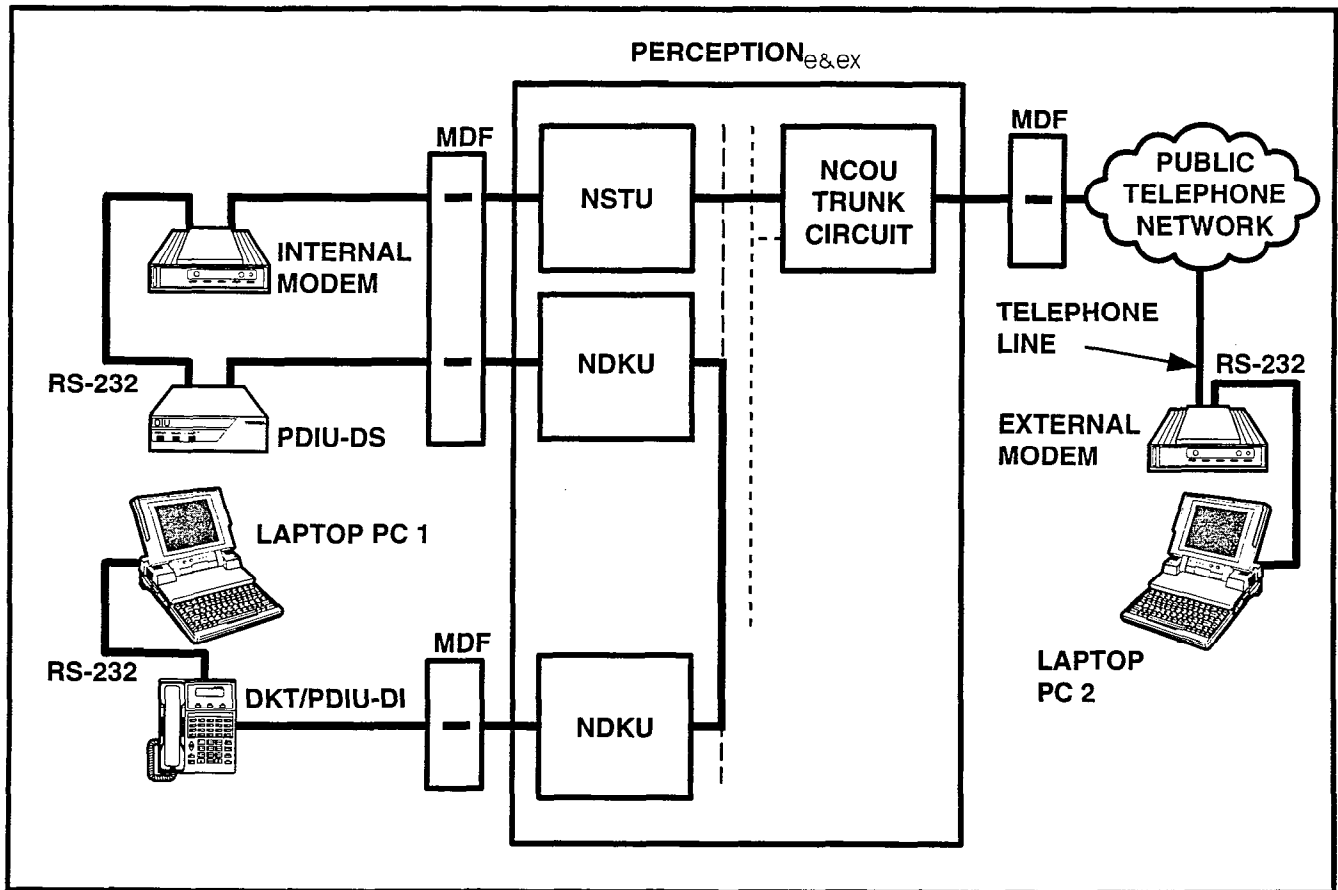

FIGURE 4-65—EXTERNAL PC TO INTERNAL PC TEST CALL USING AT COMMANDS
- Figure 4-65—External PC to Internal PC Test Call Using AT Commands
1. Modem receives data on pin 2 (TD) and transmits data on pin 3 (RD).
2. The PDIU-DS must be in the connect to modem mode (P1 ~ P9 strapped B-C) so that it transmits data on pin 2 (TD) and receives data on pin 3 (RD).